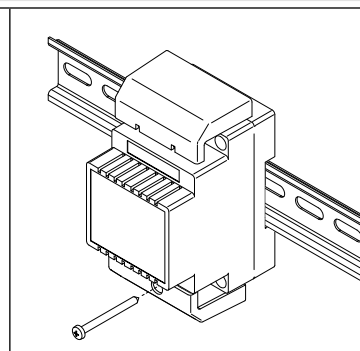

Fig. 6
5. When all connections are made replace and fix the terminal covers with the relevant screws (**Fig. 6**);